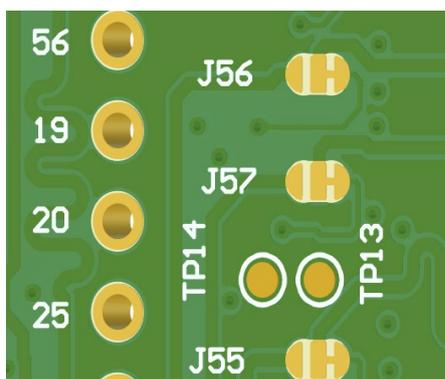

Figure 29: mikroBUS 2 jumpers J55, J56 default connection
- Jumpers **J55** and **J56** are set to their default connection, as shown in Figure 29.